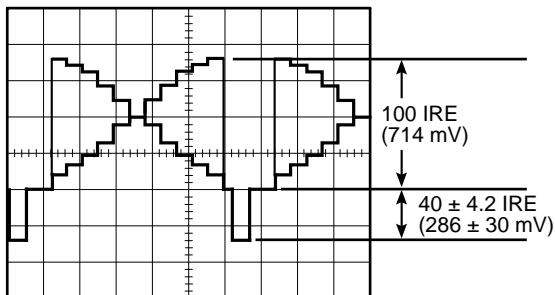

Fig. 5-8
- Adjust VR5 so that the Video signal level becomes 100 IRE (714 mV) as shown in Fig.5-8, and confirm that the Sync signal level is 40 ± 4.2 IRE (286 ± 30 mV) as shown in Fig. 5-8.